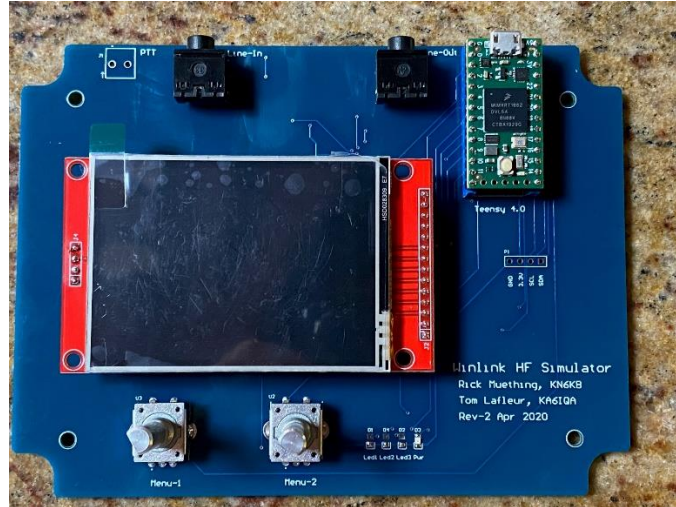

Fig 2. Basic control/display layout (Rev 2 prototype) Schematic, PCB design, layout assembly and test by Tom Lafleur KA6IQA
3.0 Basic Layout: The Basic layout of the Simulator is shown in Figs 2 & 3. The simplified user interface consists of just 2 rotary encoders (each with push switch) and a small color graphics TFT display mounted in an ~ 4" x 6" customized PolyCase enclosure. The simulator is powered through its micro USB connector which also provides optional USB serial I/O for computer-controlled operation if desired. Audio input (2 mono channels) and audio output (2 mono channels) connections are made using standard 1/8" (3.5 mm) stereo phone jacks.